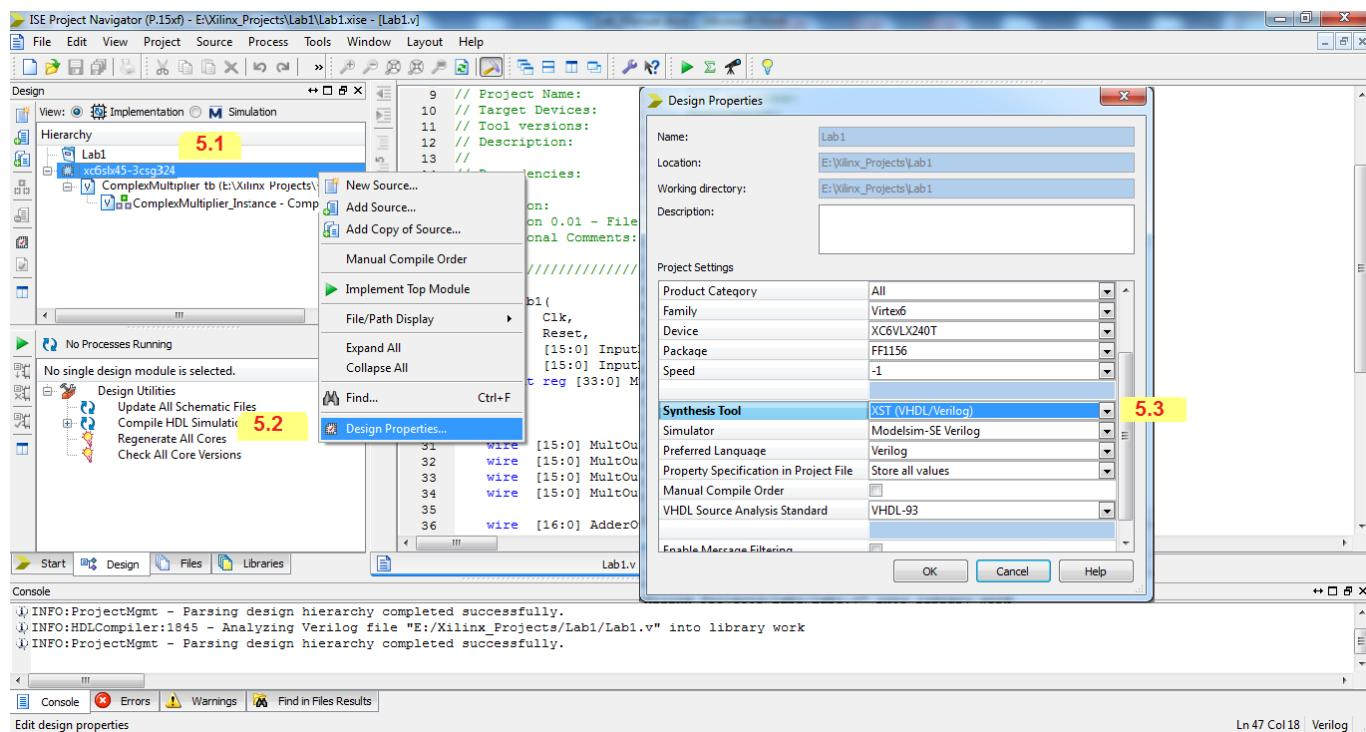

Figure 15.
5. Change the Synthesis Tool (Figure 15)